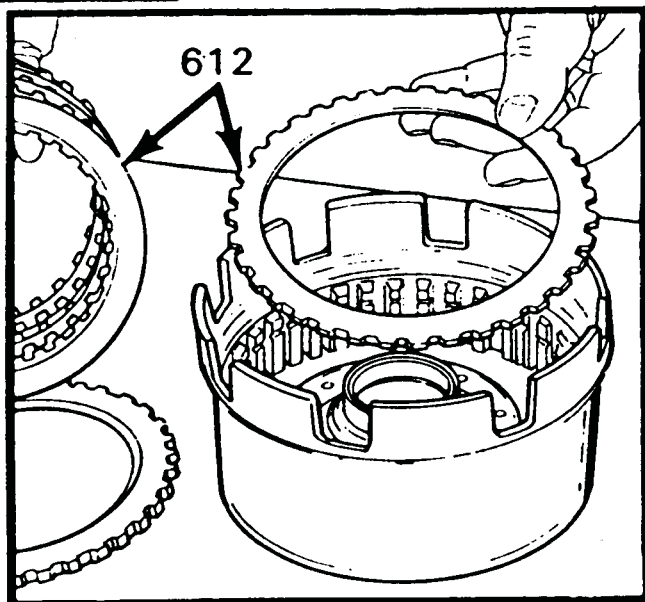

Figure 126
14. Install the reverse input clutch plates beginning with a flat steel plate, as shown in Figure 126.